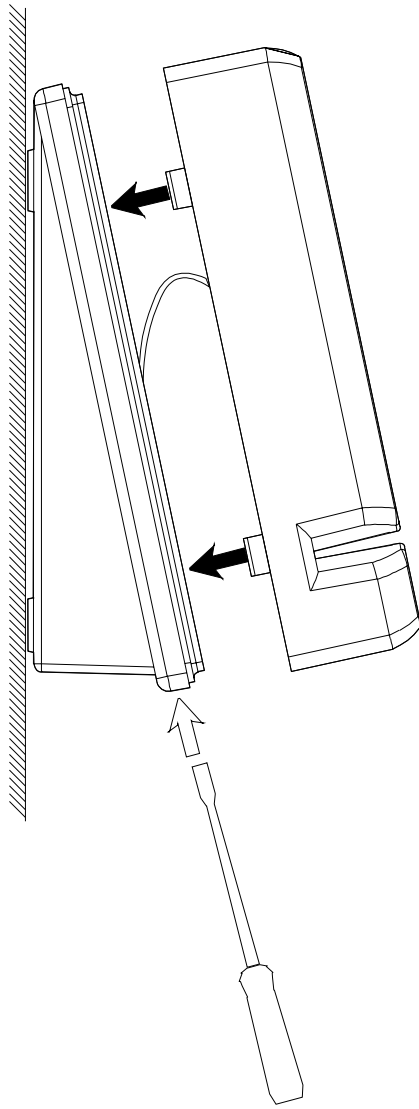

Figure 11: Closing the terminal (wall-mounted assembly)
2. Insert the upper shell as indicated in Figure 11.